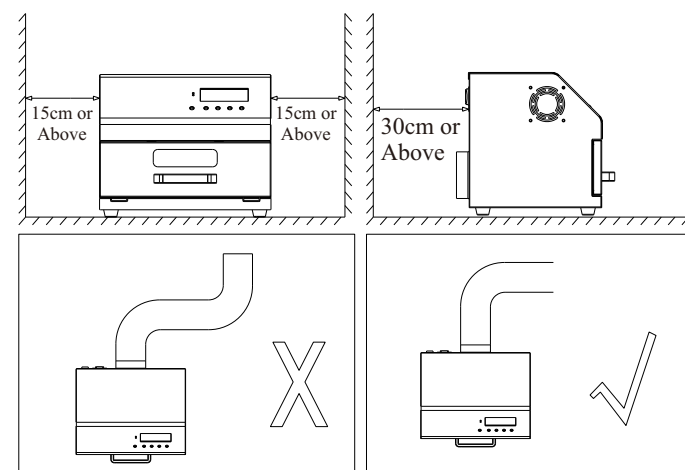

Fig. 3
4. Reserve the space when placing the equipment, as shown in Figure 3 below.